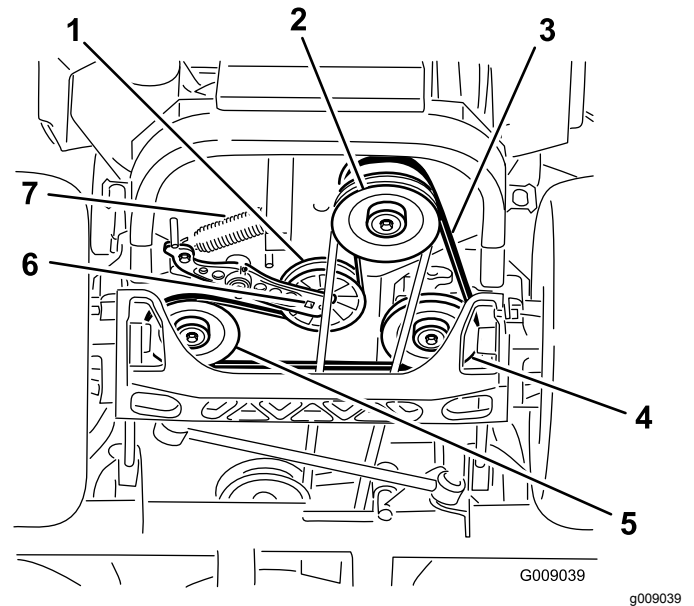

**Figure 80**
12. Install the belt covers (Figure 80).